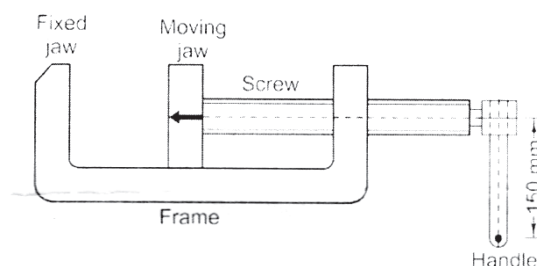

Figure 4
- b)** A machine vice as shown in Fig.4 has single start, square threads with 22 mm nominal diameter and 5 mm pitch. The outer and inner diameters of the friction collar are 55 and 45 mm respectively. The coefficient of friction for thread and collar are 0.15 and 0.17 respectively. The machinist can comfortably exert a force of 125 N on the handle at a mean radius of 150 mm. Assuming uniform wear for the collar, calculate: [12]